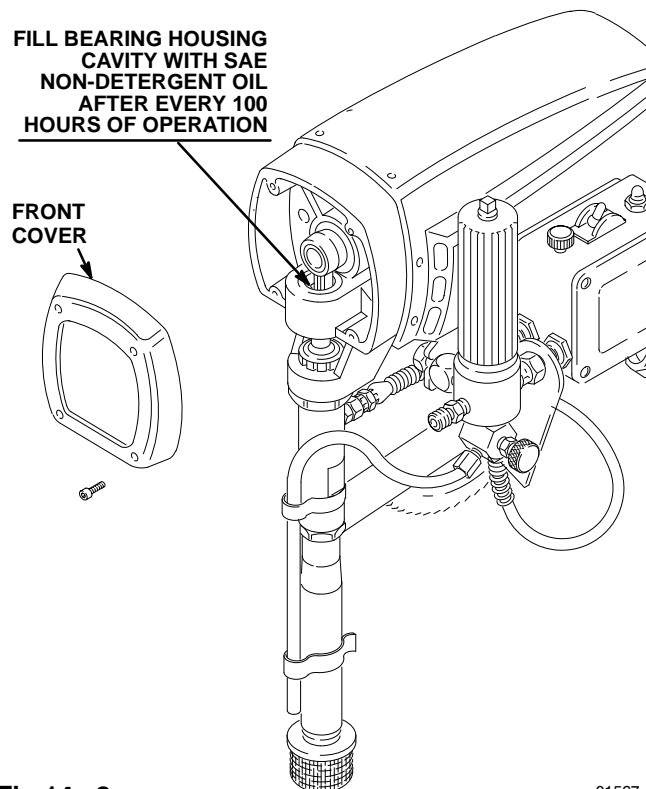

Fig 14-2
3. **Lubricate the bearing housing** after every 100 hours of operation. First relieve pressure. Remove the front cover. Fill the bearing housing cavity with SAE 10 non-detergent oil. See Fig 14-2.